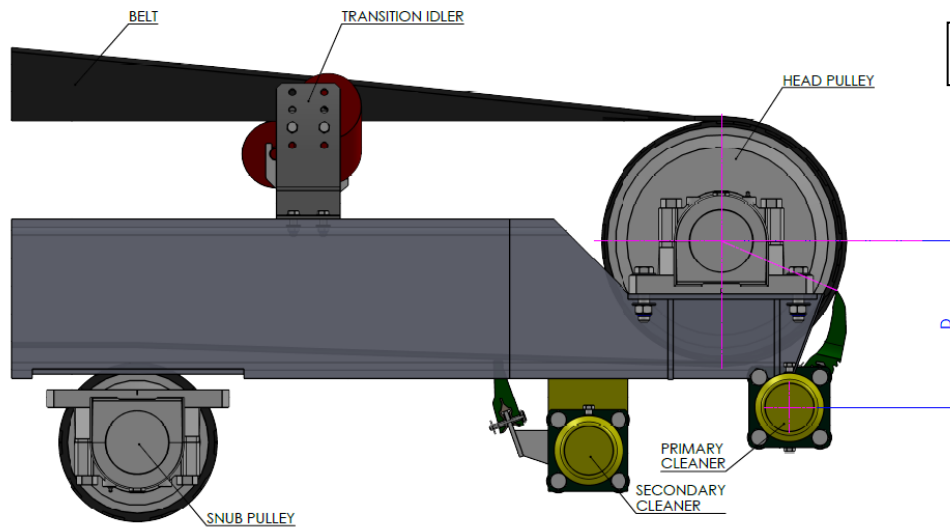

Fig. 5
- Fig. 5 shows the contact location of a slow speed system with minimal trajectory.